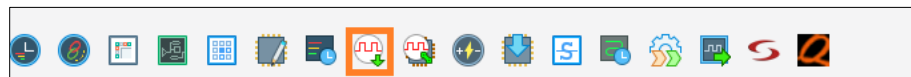

Figure 3.46. Launching Reveal Inserter through Lattice Radiant Software
2. Save the project and launch the Lattice Radiant software. Click the **Reveal Inserter** icon  (Figure 3.46).